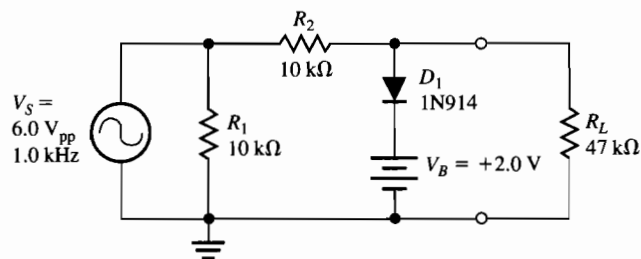

Figure 33-5
- Remove the cathode of the diode from ground and connect it to the power supply as shown in Figure 33-5. Vary the voltage from the supply and describe the results: